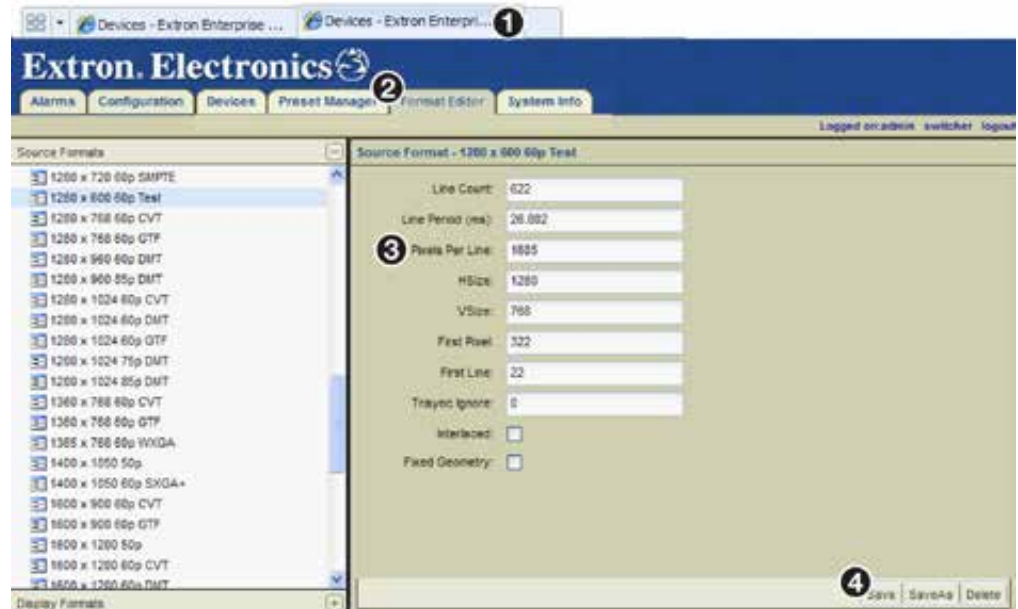

Figure 137. Enter Values Into the Source Format Editor Page
31. Click the **right device tab** (see figure 137, **①**).
32. Select the **Format Editor** (**②**).
33. In the **Source Format** panel, adjust the **Pixels Per Line** field (**③**) to size the image correctly. Be sure to click the **Save** button each time the line is adjusted (**④**).